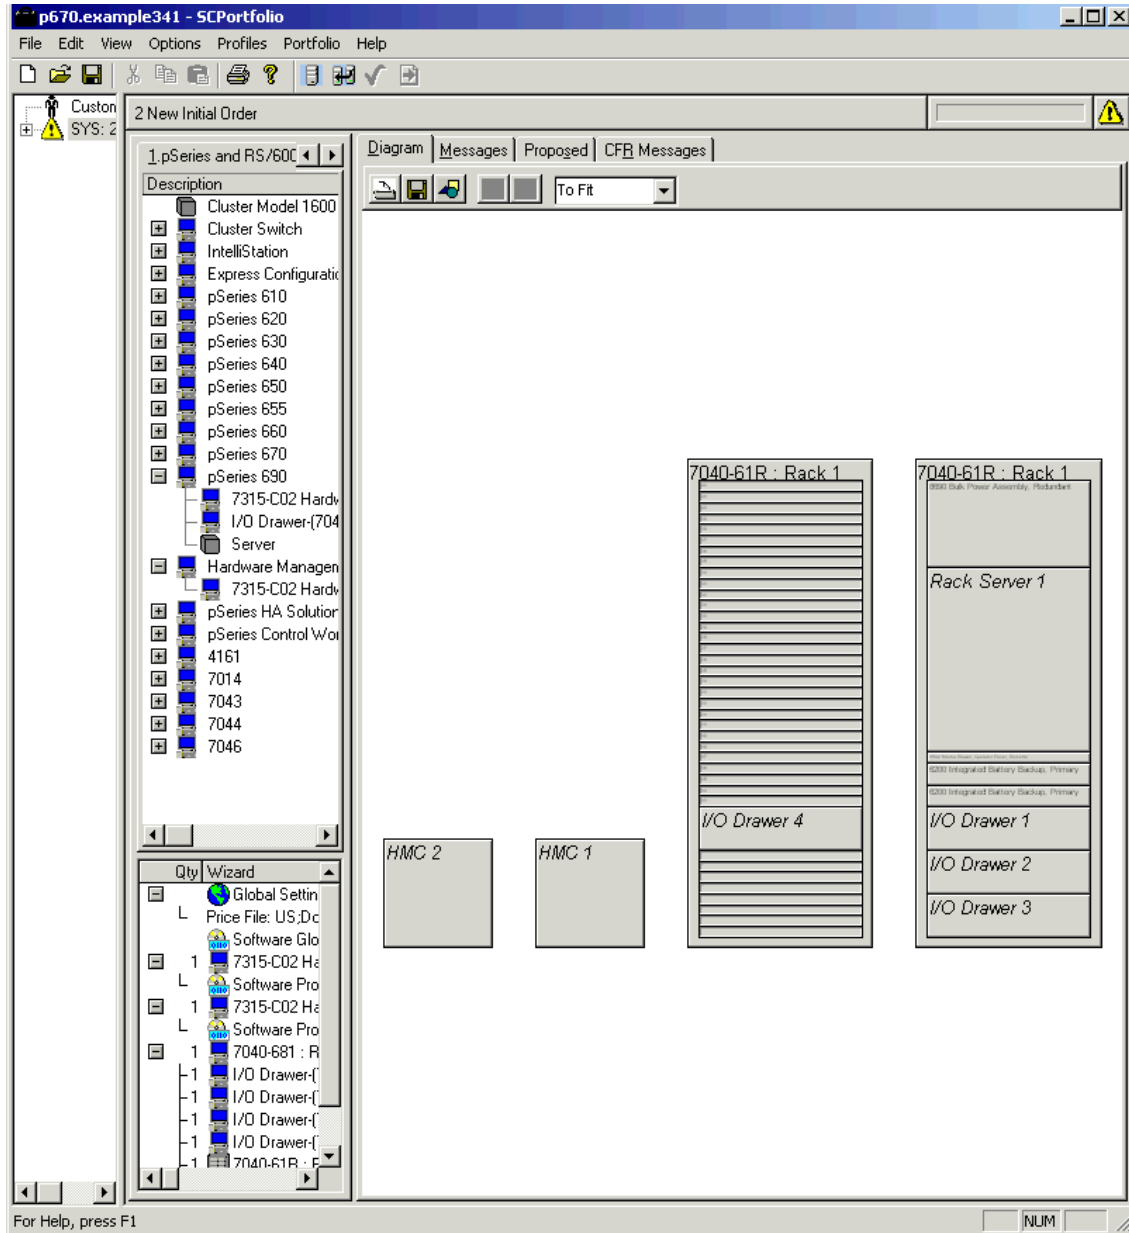

Figure 3-23 A graphical representation of the final configuration
22. The final graphical representation for this configuration should be similar to Figure 3-23 on page 123.